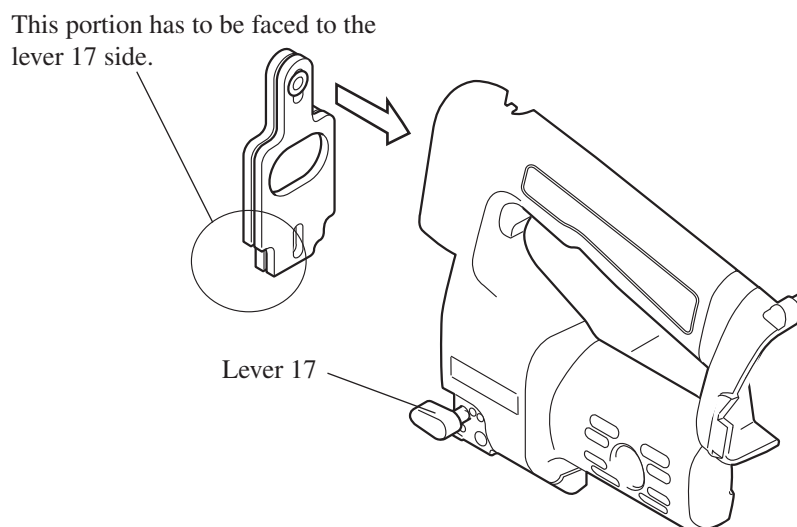

Fig. 4
1) Balance plates are not symmetric. Assemble the balance plate as shown in Fig.4.